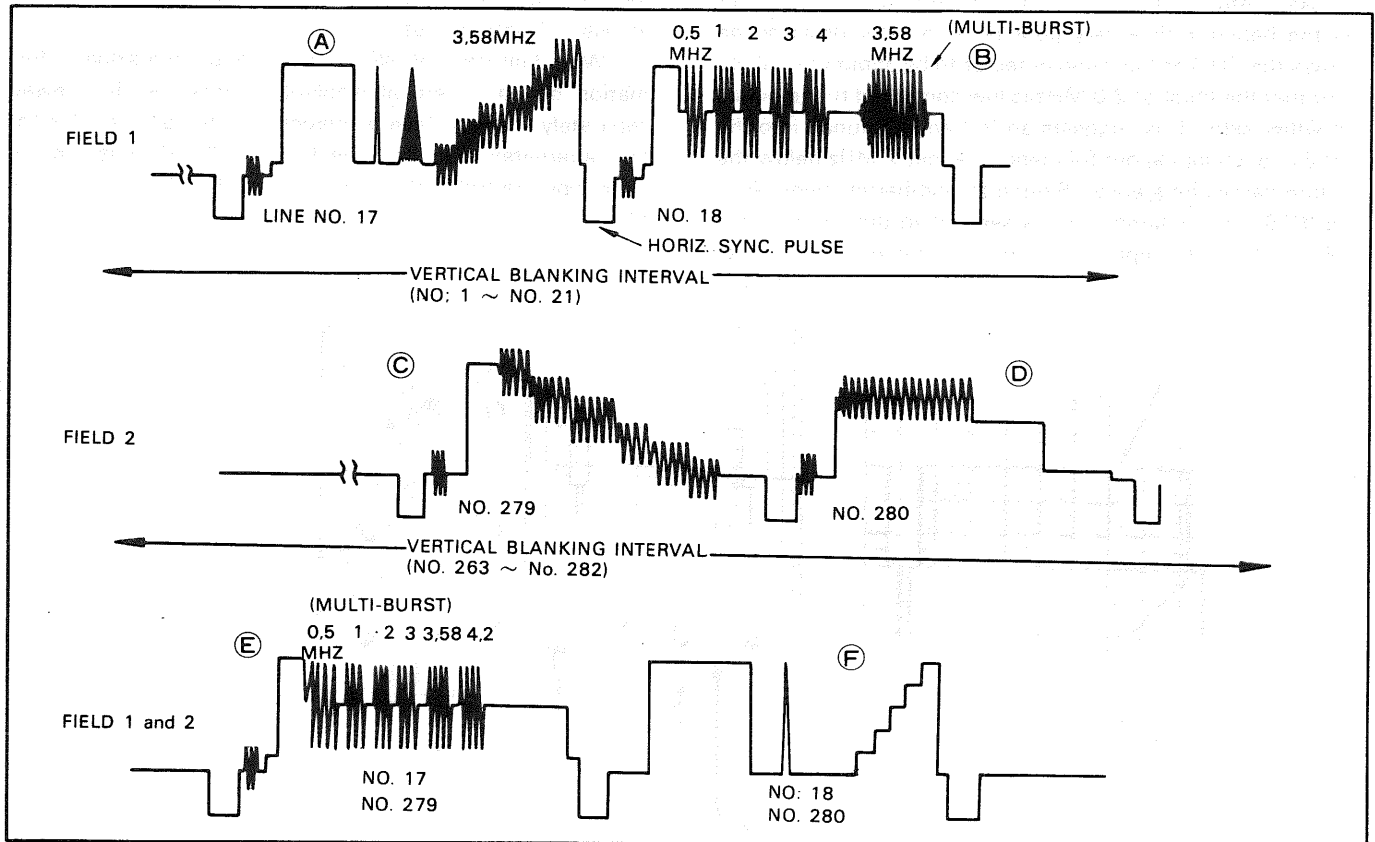
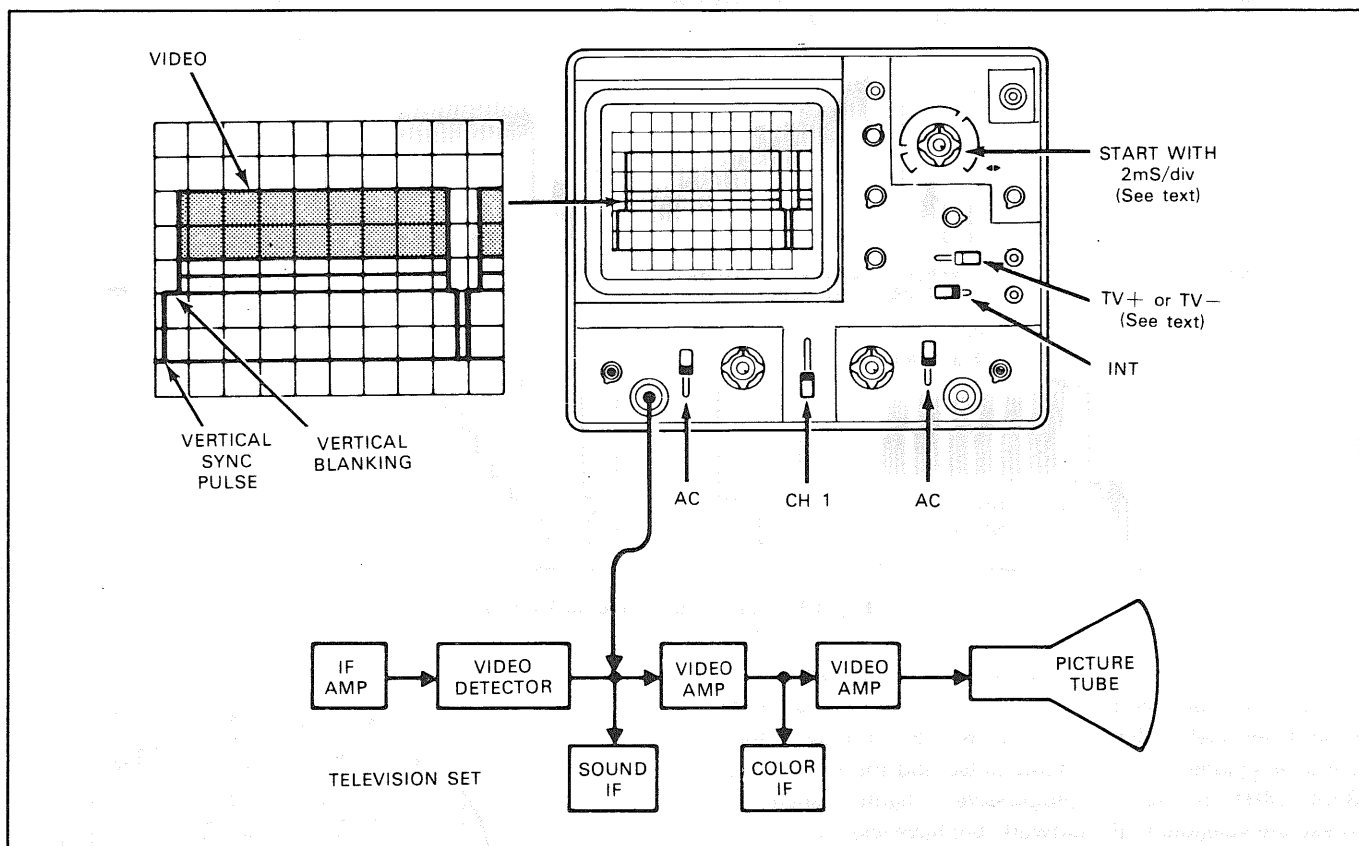

Fig. 11 VITS signal, Fields 1 and 2
Fig. 13 Set-up for viewing fields 1 and 2 of VITS information
Many of television servicing procedures can be performed using single-trace operation. These are outlined later in the applications section covering single-trace operations. One of these procedures, viewing the VITS (vertical interval test signal), can be accomplished much more effectively using a dual-trace oscilloscope. As outlined in the single-trace applications section and as shown in Fig. 11, the information on the Field 1 and Field 2 vertical blanking interval pulse is different. This is shown in detail in Fig. 11. Also, because the oscilloscope sweep is synchronized to the vertical blanking interval waveform, the Field 1 and Field 2 waveforms are superimposed onto each other. With dual-trace operation, the signal information on each blanking pulse can be viewed separately without overlapping. Fig. 13 indicates the oscilloscope control setting for viewing the
The transmitted VITS is precision sequence of specific frequency, amplitude and waveform as shown in Fig. 11. Television networks use the precision signals for adjustment and checking of network transmission equipment, but the technician can use them to evaluate television set performance in VITS can also be used for checking the operating
condition of TV sets. The first frame of VITS at the "B" section (line 18) in Fig. 11 begins with a white reference signal, followed by sine wave frequencies of 0.5 MHz, 1.0 MHz, 2 MHz, 3 MHz, 4.0 MHz and 3.58 MHz. This sequence of frequencies is called the "multi-burst".
With dual-trace oscilloscope operation, the signal information on each vertical blanking interval can be viewed separately without trace overlapping, although the information alternates with each field. Fig. 13 indicates the oscilloscope control setting for viewing the alternate vertical blanking intervals.
2. The control settings of Fig. 13 are those required 2-field vertical display on CH1.
9. Set the SWEEP TIME/DIV control to the 0.1 ms/div position. This expands the display by increasing the sweep speed. The VITS information will appear toward the right hand portion of the expanded waveform displays. The waveform information on each trace may appear as shown in Fig. 11. Because there is no provision for synchronizing the oscilloscope display to either of the two fields which comprise a complete vertical frame, it cannot be predicted which field display will appear on the CH1 or CH2 display.
10. Pull the ◀▶POSITION control outward to obtain an additional X5 magnification. Rotate the control moving the trace to the left until the expanded VITS information appears as shown in Fig. 11. Because of the low repetition rate and the high sweep speed combination, the brightness level of the signal displays will be reduced.